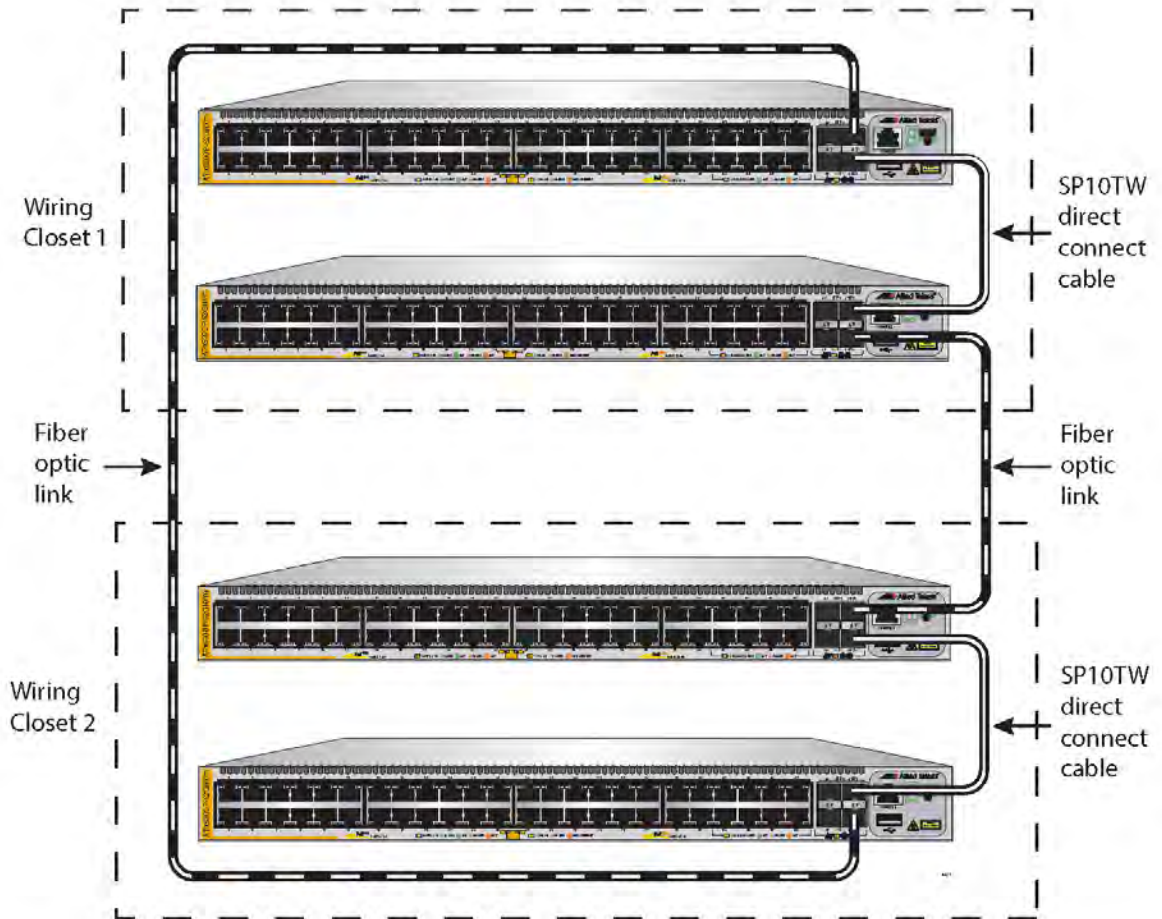

Figure 15. 10Gbps Stack Trunk with Both SFP+ Fiber Optic Transceivers and SP10TW Direct Connect Cables
- ❑ A stack trunk can have fiber optic or SP10TW direct connect cables in the same stack. See Figure 15 on page 57.
10Gbps stack trunks can have both fiber optic transceivers and SP10TW direct attach cables. The example in Figure 15 illustrates a stack of four switches located in two separate buildings. SP10TW direct attach cables connect switches that are in the same wiring closet while fiber optic transceivers connect the switches across the buildings.